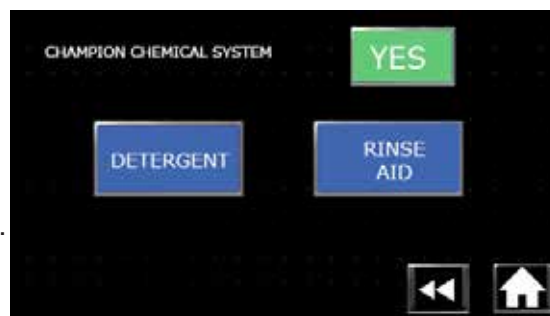

Fig. 42 -
- Press Rinse Aid, Fig. 42, button to display settings.